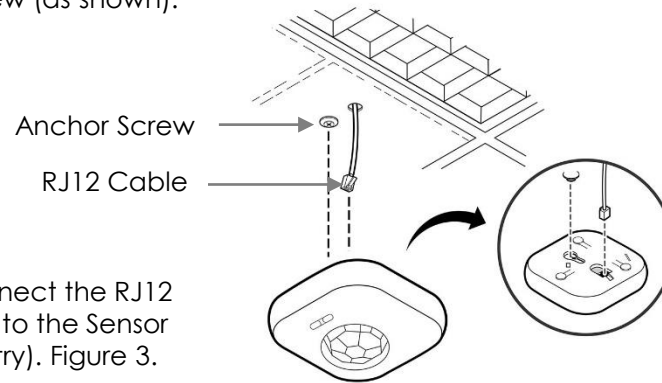

Figure 3
Step 5: Install the Smart Sensor anchor screw (as shown). Figure 3.
Step 6: Connect the RJ12 data cable to the Sensor (bottom entry). Figure 3.